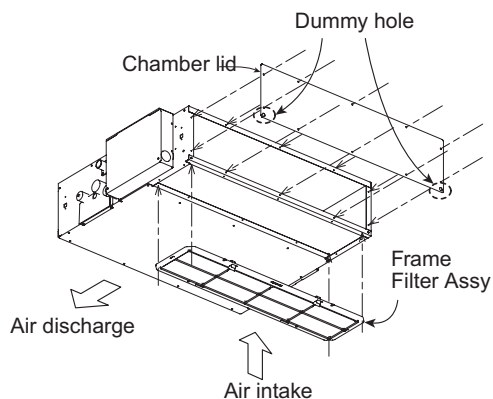

Fig. 2-128
- (2) Refer to the diagram to attach the chamber lid and frame filter assy in the direction of the arrow. (Fig. 2-128)